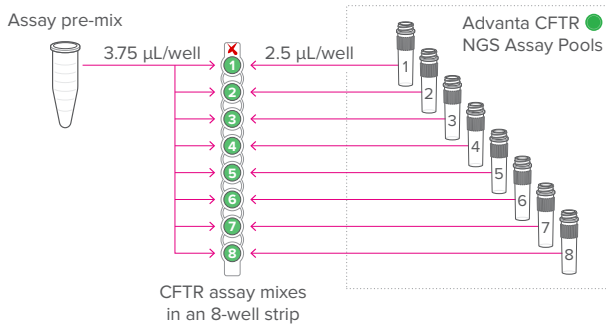

Figure 2. Preparation of CFTR assay mixes
- 2 In a DNA-free hood, prepare a CFTR assay mix for each of the eight tubes of Advanta CFTR NGS Assay Pools in a new 8-well strip by adding each component as shown in Table 2 and Figure 2. Pipet gently up and down to mix, being careful to avoid creating bubbles.